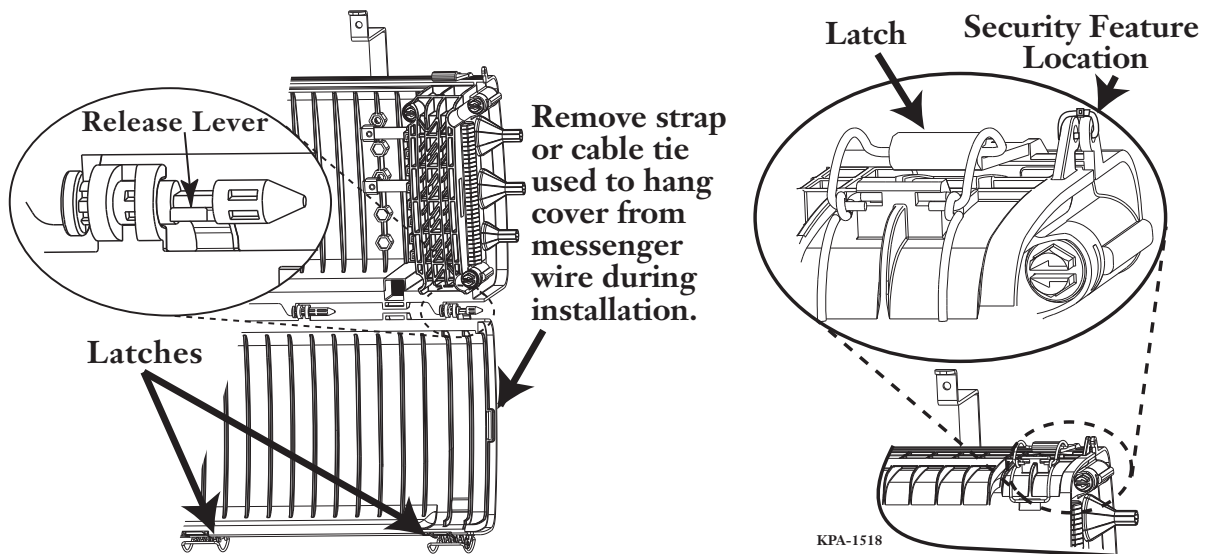

Figure 24 — Reattach Cover and Secure Latches
- Step 1:** If the cover was removed, slide the cover from the right to the left onto the hinge pins of the terminal. The release lever (Figure 24) will snap into place when the cover is completely installed.